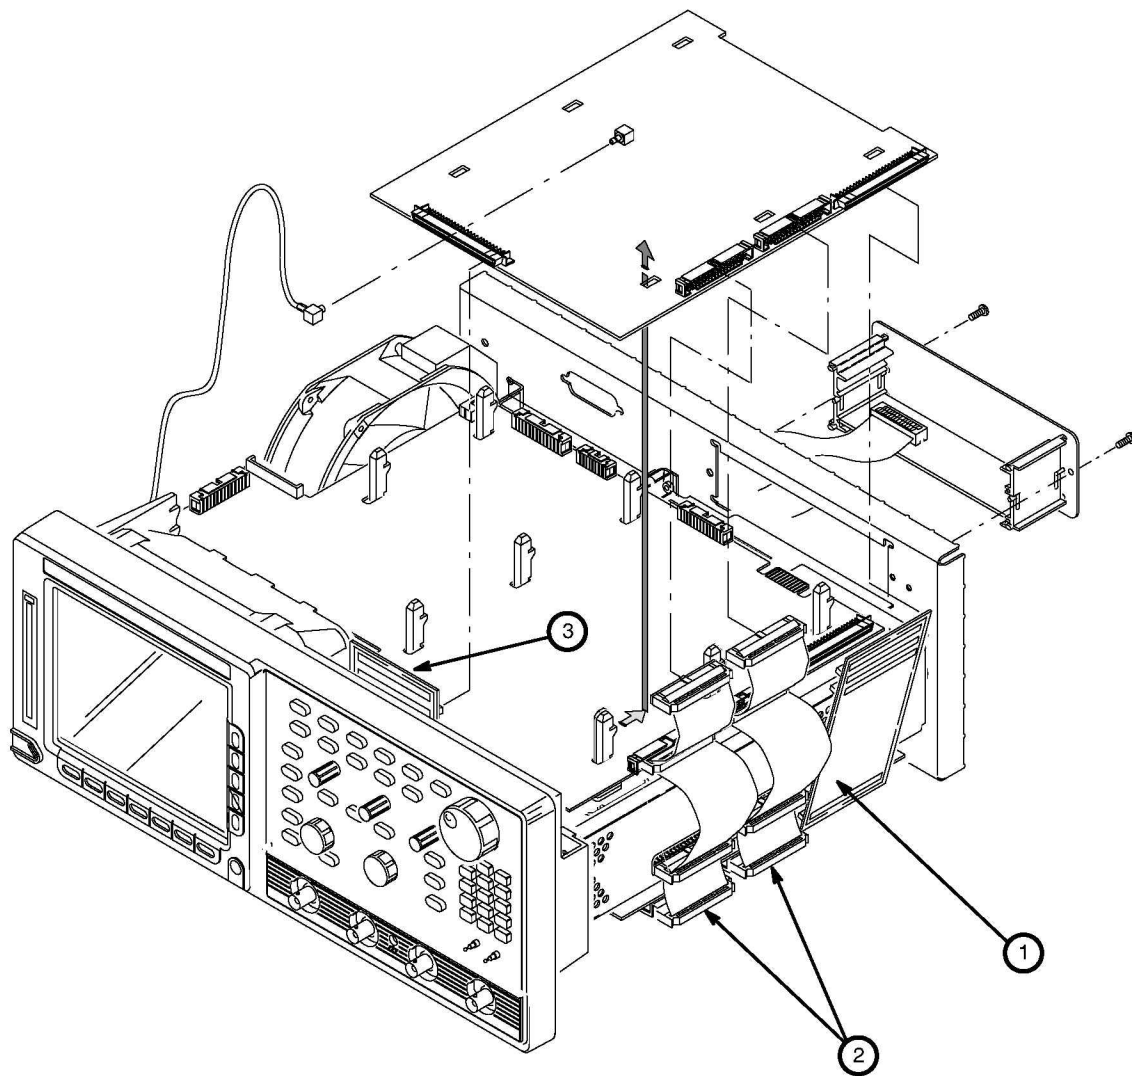

Figure 6-18: Circuit Board Removal
- b. Disconnect the two power cable connectors (the analog-power and digital-power interconnect cables) from the video board connector and from the processor-display circuit board connector (see number 2 on Figure 6-18).
- c. Remove (or pull loose) the A27 Connector board (see number 3 on Figure 6-18).
- e. Slide back and lift up the Video Trigger circuit board (see Figure 6-18).
Also, when plugging in the digital bus boards, 1 and 3 in Figure 6-18, make sure that they remain plugged in on both ends.